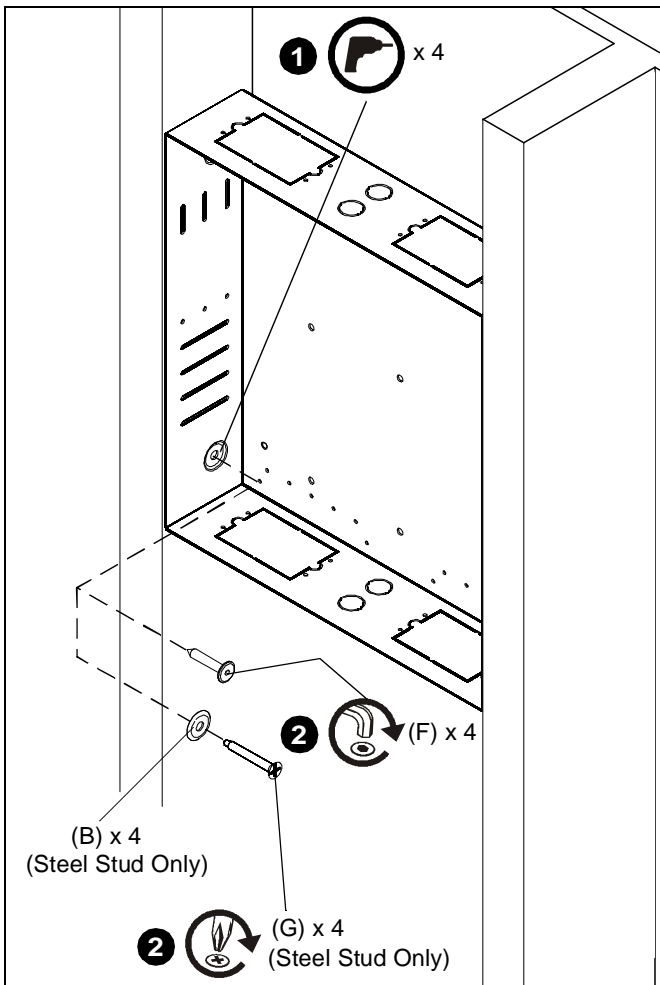

Figure 3
1. Drill four 3/16" dia. pilot holes in studs at mounting holes. (See Figure 3)
2. Install four M7 x 40mm Allen head connector screws (F) into pilot holes using an M4 Allen head drill bit (D). (See Figure 3)
2. Install four 1/4" countersunk finishing washers (B) and four 1/4" x 2" Phillips flat head self drilling screws (G) into pilot holes. (See Figure 3)